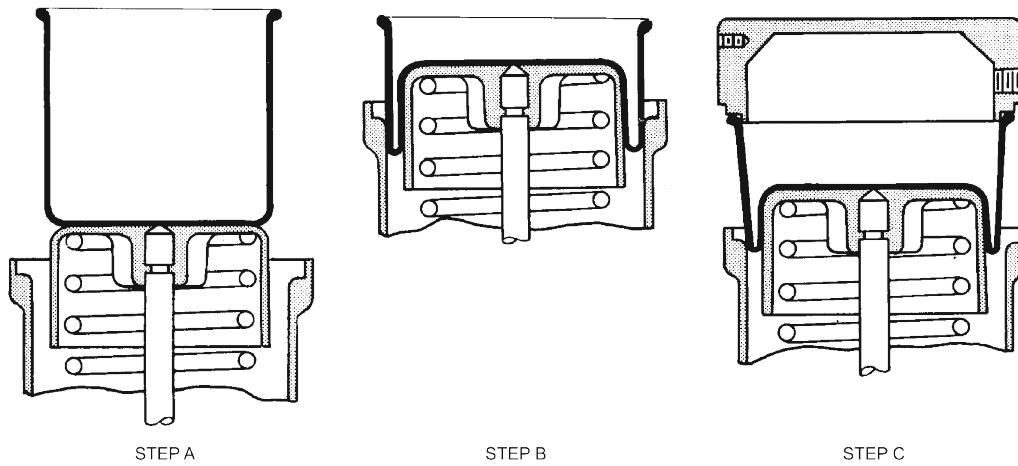

Figure 7 - Method 1
- H-1. The inscription "Piston Side" is located on the diaphragm (40). If used, apply cement to this side of the diaphragm.
- I-1. Center and adhere diaphragm (40) to the top of the piston (43) (see Figure 7-Method 1, Step A).
- J-1. Roll the diaphragm (40) inside the spring barrel (38) until the diaphragm is partially engaged in the spring barrel (see Figure 7-Method 1, Step B).